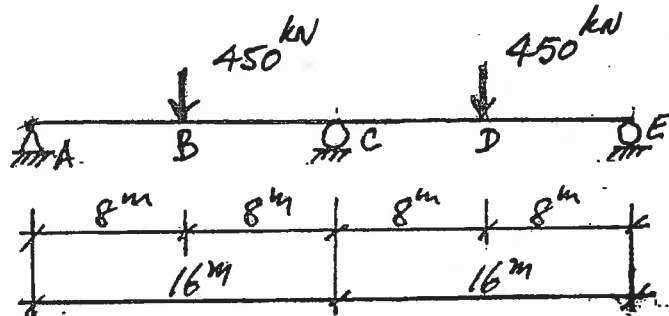

FIGURE 3
5. The two-span continuous welded plate girder, shown in Figure 3, is to be designed using the stiffened-web approach. Design a cross-section suitable for flexure, shear, and their interaction.
6. The continuous girder ACE in Figure 3 is to be designed in reinforced-concrete construction, using the Limit States Design Method: